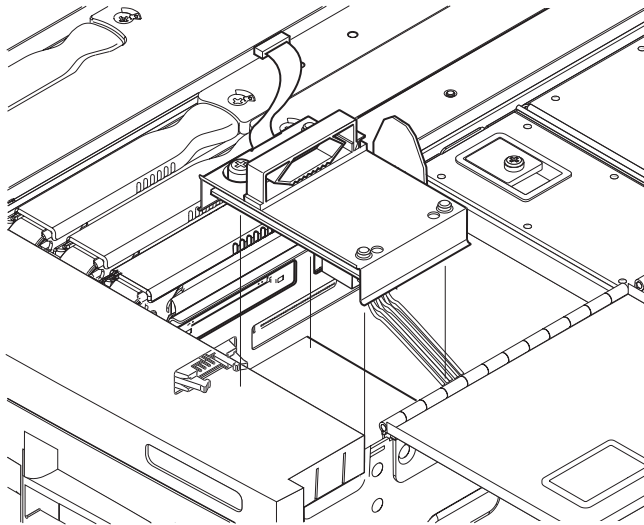

FIGURE 5-24 Removing the SCC Reader
11. Lift the reader off the locating pins (FIGURE 5-24). Place it on an ESD mat.
8. **Place the reader over the locating pins. Press firmly to seat it (FIGURE 5-24).**